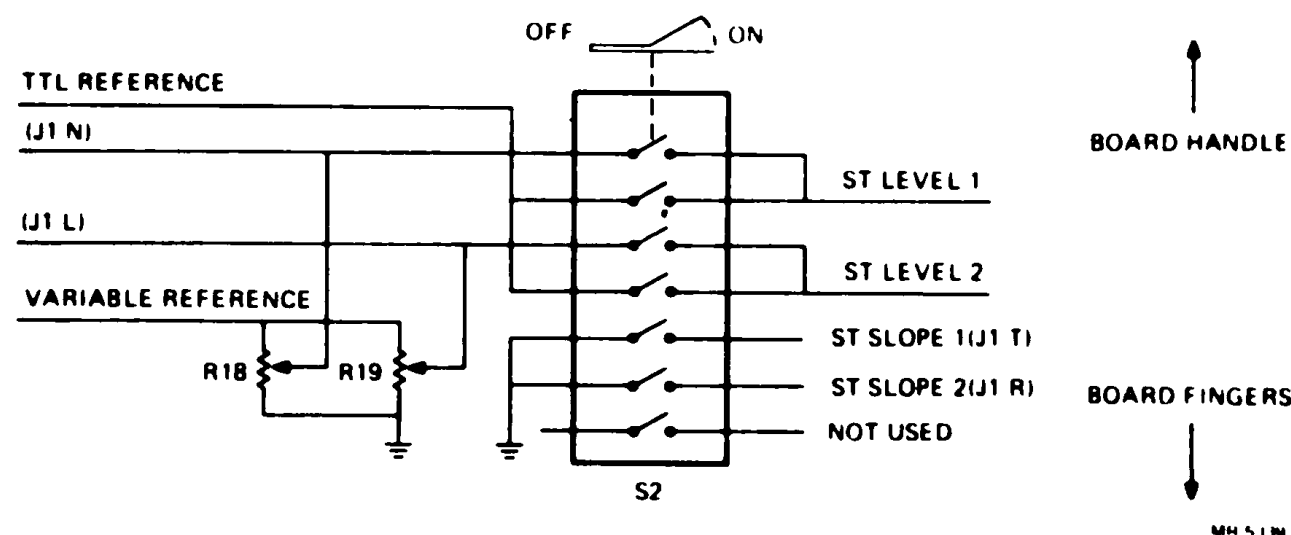

Figure 3-13 Input Reference and Slope Selection Switch
Another switch pack, S2, sets the Schmitt trigger input slope and level conditions, as shown in Figure 3-13. Refer to Table 3-2 to set switch S2. Two reference modes are selectable for each Schmitt trigger, one sets a fixed level compatible with TTL logic, and the other selects a variable level that permits the setting of the Schmitt trigger (ST) threshold to any voltage between -12 V and +12 V. R18 or R19 sets this reference level.